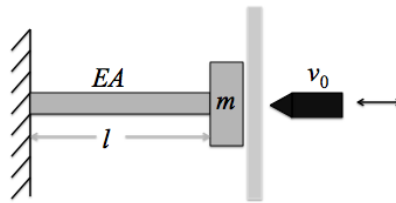

Figure P1.91 A bar model of a punch fixture.
- 1.91** A bar of negligible mass fixed with a tip mass forms part of a machine used to punch holes in a sheet of metal as it passes past the fixture as illustrated in Figure P1.91. The impact to the mass and bar fixture causes the bar to vibrate and the speed of the process demands that frequency of vibration not interfere with the process. The static design yields a mass of 50 kg and that the bar be made of steel of length 0.25 m with a cross sectional area of 0.01 m². Compute the system's natural frequency.
- 1.92** Consider the punch fixture of Figure P1.91. If the system is giving an initial velocity of 10 m/s, what is the maximum displacement of the mass at the tip if the mass is 1000 kg and the bar is made of steel of length 0.25 m with a cross sectional area of 0.01 m²?
- 1.93** Consider the punch fixture of Figure P1.91. If the punch strikes the mass off center it is possible that the steel bar may vibrate in torsion. The mass is 1000 kg and the bar 0.25 m-long, with a square cross section of 0.1 m on a side. The mass polar moment of inertia of the tip mass is 10 kg/m². The polar moment of inertia for a square bar is $b^4/6$, where b is the length of the side of the square. Compute both the torsion and longitudinal frequencies. Which is larger?